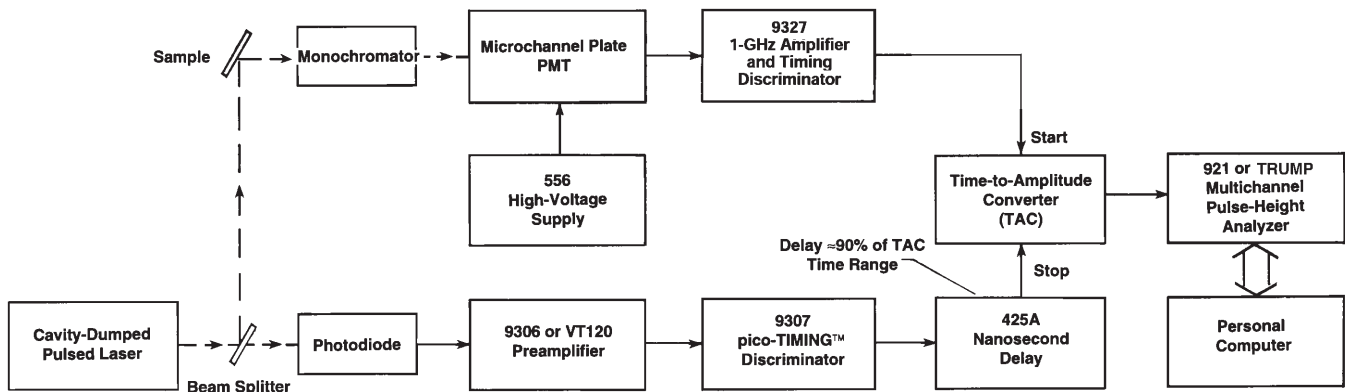
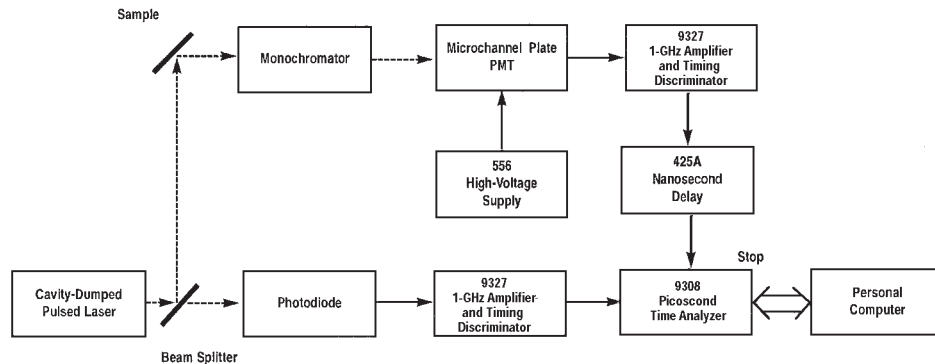

Fig. 11(A). Typical Block Diagram for a Fluorescence Lifetime Spectrometer, Utilizing a Microchannel Plate PMT, a TAC, and an MCA.
Fig. 12. The Conventional Start/Stop Arrangement for Fluorescence/Phosphorescence Lifetime Spectrometry using the Model 9308.
Figure 11(A) illustrates a system for obtaining picosecond time resolution in Fluorescence Lifetime measurements. A pulsed laser excites fluorescence in the sample, and individual fluoresced photons are detected by the microchannel plate photomultiplier tube. The time spectrometer records the profile of fluorescence decay by measuring the time interval between the laser pulse (sensed by the photodiode) and the fluoresced photon detected in the microchannel plate PMT. (See the TAC section in this catalog for the benefit of the reversed start and stop inputs in Fig. 11[A].) Fluorescence lifetimes from tens of picoseconds to tens of nanoseconds can be measured. For the longer lifetimes the microchannel plate detector can be
replaced with a conventional photomultiplier tube, as shown in Fig. 11(B), and a nanosecond flashlamp can be substituted for the laser. For measuring phosphorescence lifetimes of the order of tens of microseconds, the Model T914 Turbo-MCS can be substituted for the TAC and Multichannel Analyzer in Figure 11(A). If the entire range of lifetimes from picoseconds to microseconds must be measured, the Model 9308 picosecond TIME ANALYZER should be used in place of both the Turbo-MCS and the TAC/Multichannel Analyzer (see Fig. 12). For the T914 and the 9308 the Start/Stop connections in Figure 11A should be interchanged to achieve the conventional Start/Stop configuration, and the Model 425A should be moved to the conventional Stop input as shown in Figure 12. **Ask for the AN50 and AN52 Application Notes for more information.**
Fig. 11(B). An Alternate Time Pick-Off Scheme for Single-Photon Timing Replaces the Microchannel Plate PMT in Fig. 11(A) with a Conventional Photomultiplier Tube.